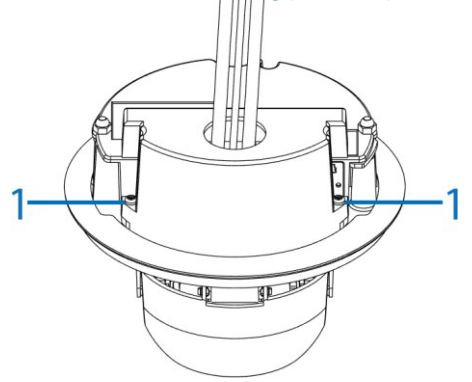

Figure 5
5. Connect the cables to their respective ports on the camera and align the two screws on the metal cover (1) (Figure 5) with the two holes on the camera and use a screwdriver to securely attach the metal cover to the camera.